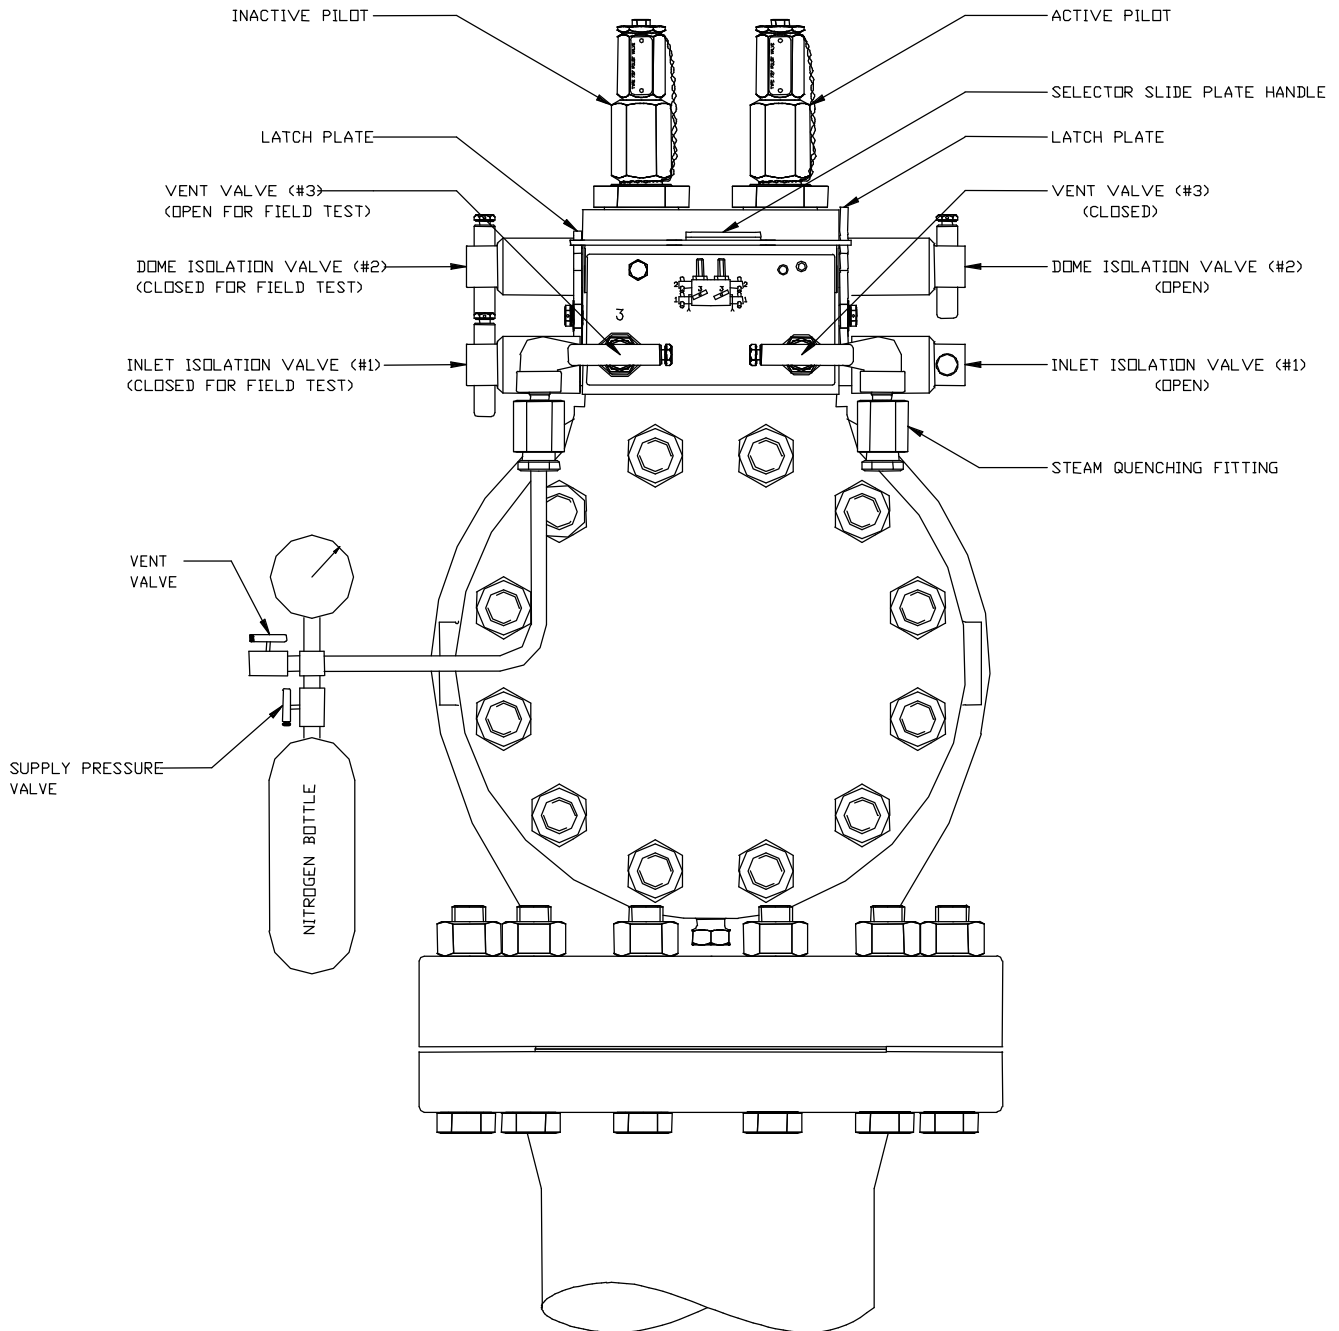

FIGURE 4
The Field Test Assembly required for testing is shown in Figure 4.
7.1 Pilot Set Pressure Verification (See Figure 4)